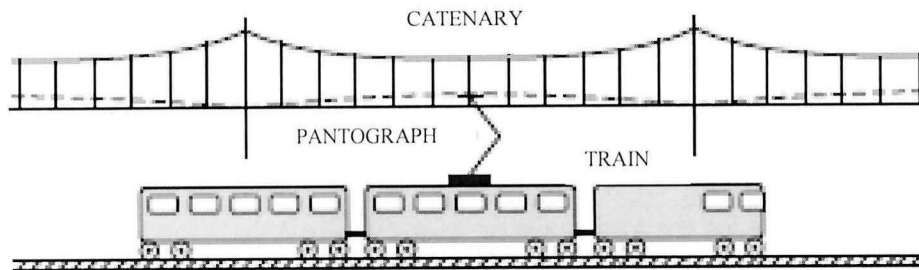

Figure Q2(c)
- (b) Identify **THREE (3)** reasons for using feedback control systems and **ONE (1)** reason for not using them (4 marks)
- (c) Some high speed rail systems are powered by electricity supplied to a pantograph on the train's roof from a catenary overhead as shown in **Figure Q2(c)**. The force applied by the pantograph to the catenary is regulated to avoid loss of contact due to excessive transient motion. A proposed method to regulate the force uses a closed-loop feedback system, whereby a force, F_{up} is applied to the bottom of the pantograph, resulting in an output force applied to the catenary at the top. The contact between the head of the pantograph and the catenary is represented by a spring. The output force is proportional to the displacement of this spring, which is the difference between the catenary and pantograph head vertical position. Draw a functional block diagram and distinguish following signals: